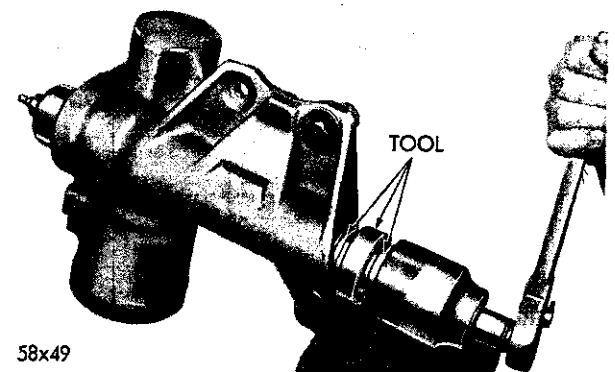

Fig. 3—Removing the Gear Shaft Oil Seal
(6) Remove the gear shaft, grease retainer with adapter SP-3056 and Tool C-3350 (Fig. 3) as follows: